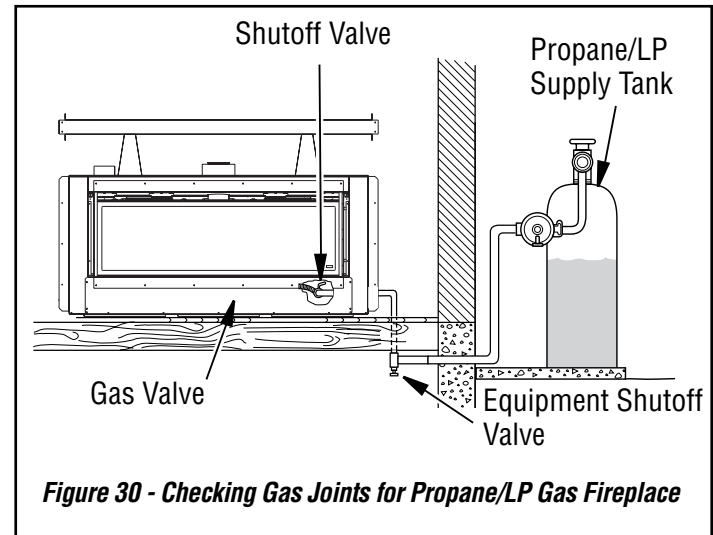

Figure 30 - Checking Gas Joints for Propane/LP Gas Fireplace
3. Check all joints from propane/LP supply tank or gas meter to equipment shutoff valve (see **Figure 30 or 38**). Apply noncorrosive leak detection fluid to all joints. Bubbles forming show a leak.
5. Check all joints from equipment shutoff valve to gas valve (see **Figure 30 or 38**). Apply noncorrosive leak detection fluid to all joints. Bubbles forming show a leak. Correct all leaks at once.